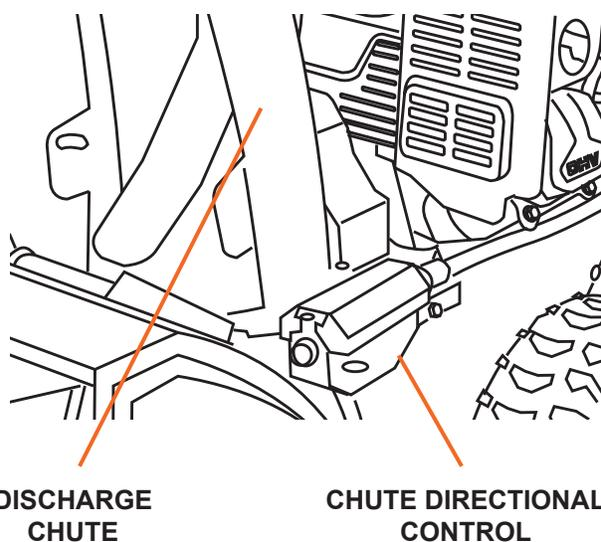

Figure 5
2. Attach the chute crank bracket aligning the chute notches with the spiral end of the chute directional control assembly using the two hex bolts, flat washers and nylon lock nuts from the hardware kit (see Figure 5). Lubricate both ends of the chute directional control crank with petroleum jelly, paraffin wax, or light machine oil.